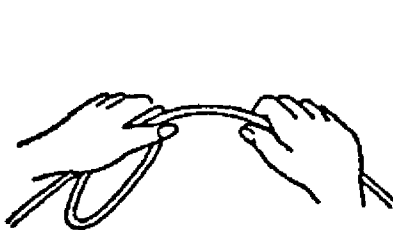

Fig. 3-17-1
- a. Hold one end of the rope in your left hand and in front of you. Use your right hand to form a single loop and then hold it in your left hand. (Fig. 3-17-1)